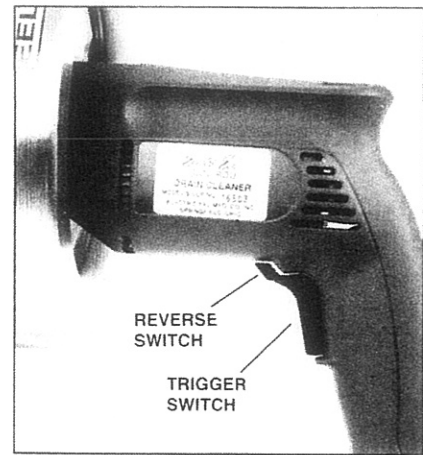

Figure 3
CAUTION: Make sure TRIGGER SWITCH on tool is OFF, (see Fig. 3). Make sure that you are plugging into a household 120 Volt ground fault interrupter circuit.
1. Squeeze TRIGGER SWITCH (Fig. 3), to start motor. Release trigger switch to stop motor. The motor speed will increase the more the trigger switch is squeezed.
2. The REVERSING SWITCH is located above and in front of the trigger 1. switch, (see Fig. 3), and changes the direction of rotation of the cable.